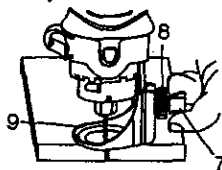

Fig. 11
1. Adjust precision handle sole plate depth by loosening the depth gauge locking knob (7) and rotating the adjusting knob (8) to move the sole plate (9) in or out as required (see Fig. 11).